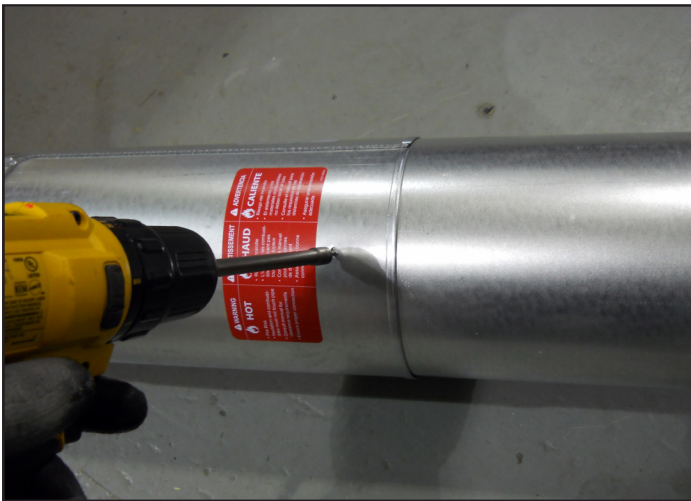

Figure 7.4 - Screws into Slip Section
- Secure the pipe and slip section with two screws no longer than 1/2 in. (13 mm), using the pilot holes in the slip section. See Figure 7.4.